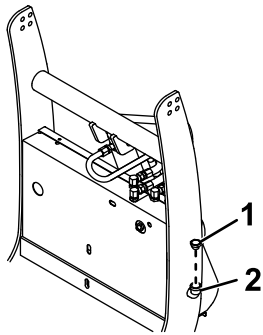

Figure 39
2. Clean the area around the fill cap (Figure 39).